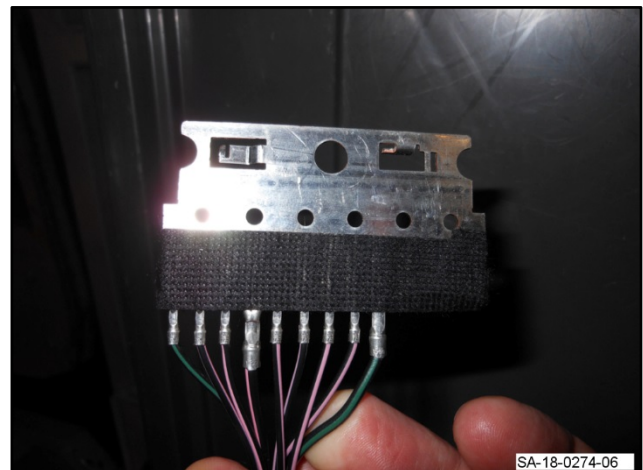

Figure 6
6. Make sure that you install the ground plate so that the raised tabs point away from the cross car beam (refer to Figure 6). To make sure that a good ground path is made, the flat surface of the ground plate must touch the cross car beam.